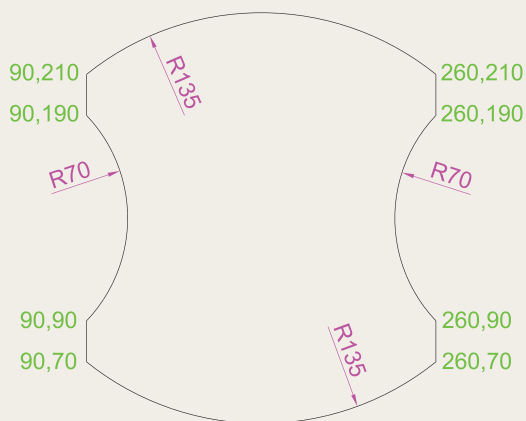

Fig. 3.46 Exercise 2
- With the **Line** and **Arc** tools, construct the outline shown in Fig. 3.46.